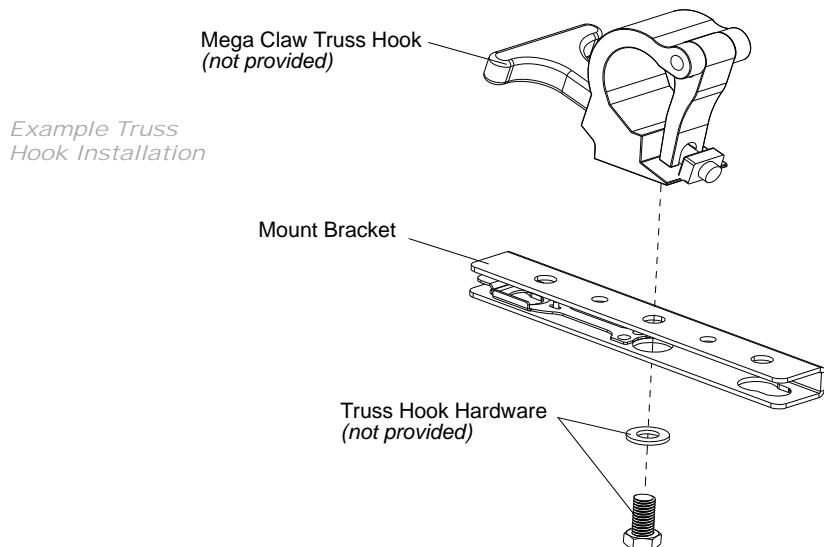

Figure 2-6: Truss Hook Installation
Step 1. Install truss hooks (also refer to “Truss Hook Hardware \(by others\)” on page 20) for additional information) on two provided truss hook brackets as required as shown in Figure 2-6.
When installing hanging hooks on mounting brackets, Vari-Lite strongly recommends the use of a Belleville washer (*by others*, Figure 2-7 shows examples) when installing a truss hook or claw as shown in Figure 2-6.